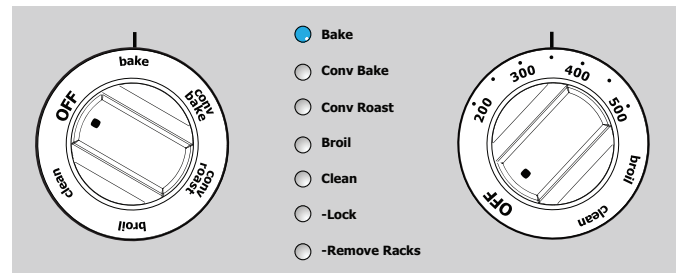

Figure 14: Selecting the bake function
2. Turn the function dial to **bake**. The Bake indicator light will flash (Figure 14).